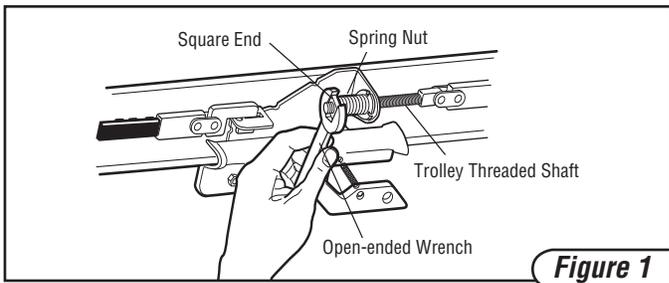

Figure 1
3. Place an open-end wrench on the square end of the spring nut, loosen nut to release the belt tension (Figure 1).